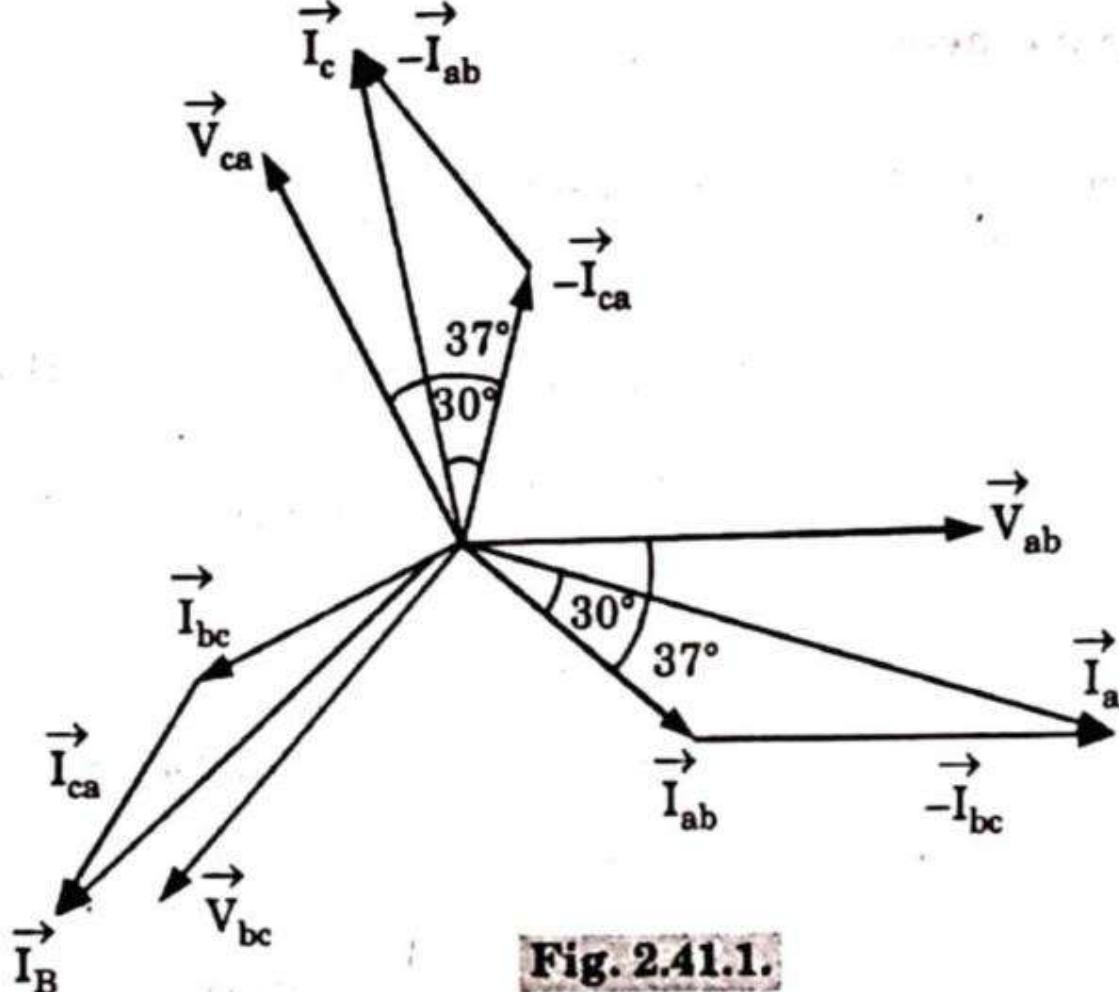

Fig. 2.41.1.
8. Phasor diagram is shown in Fig. 2.41.1.